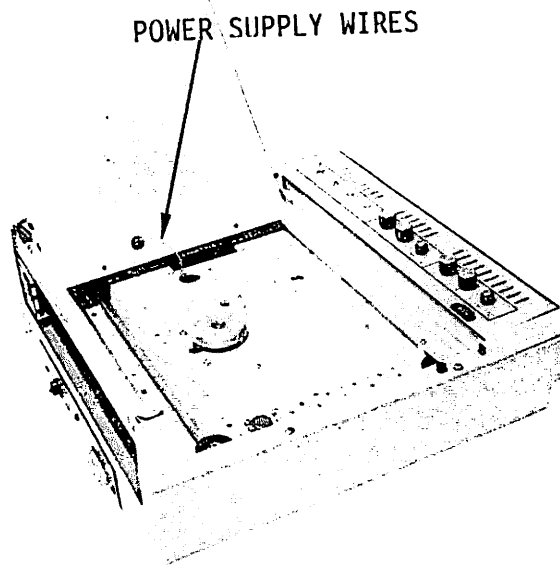
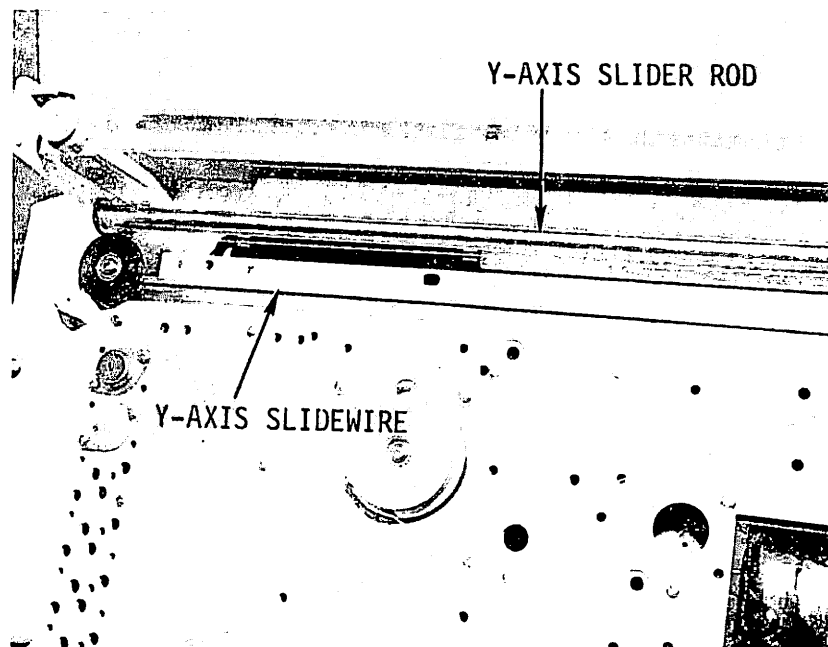

Figure B-3. Platen Removed
Figure B-4. Slidewire Accessible
3. Ease platen up and slightly to the left. Disconnect power supply wires beneath the platen before easing the platen all the way out. See Figure B-3. The wiper and slidewire are now accessible. See Figures B-4 and B-5.